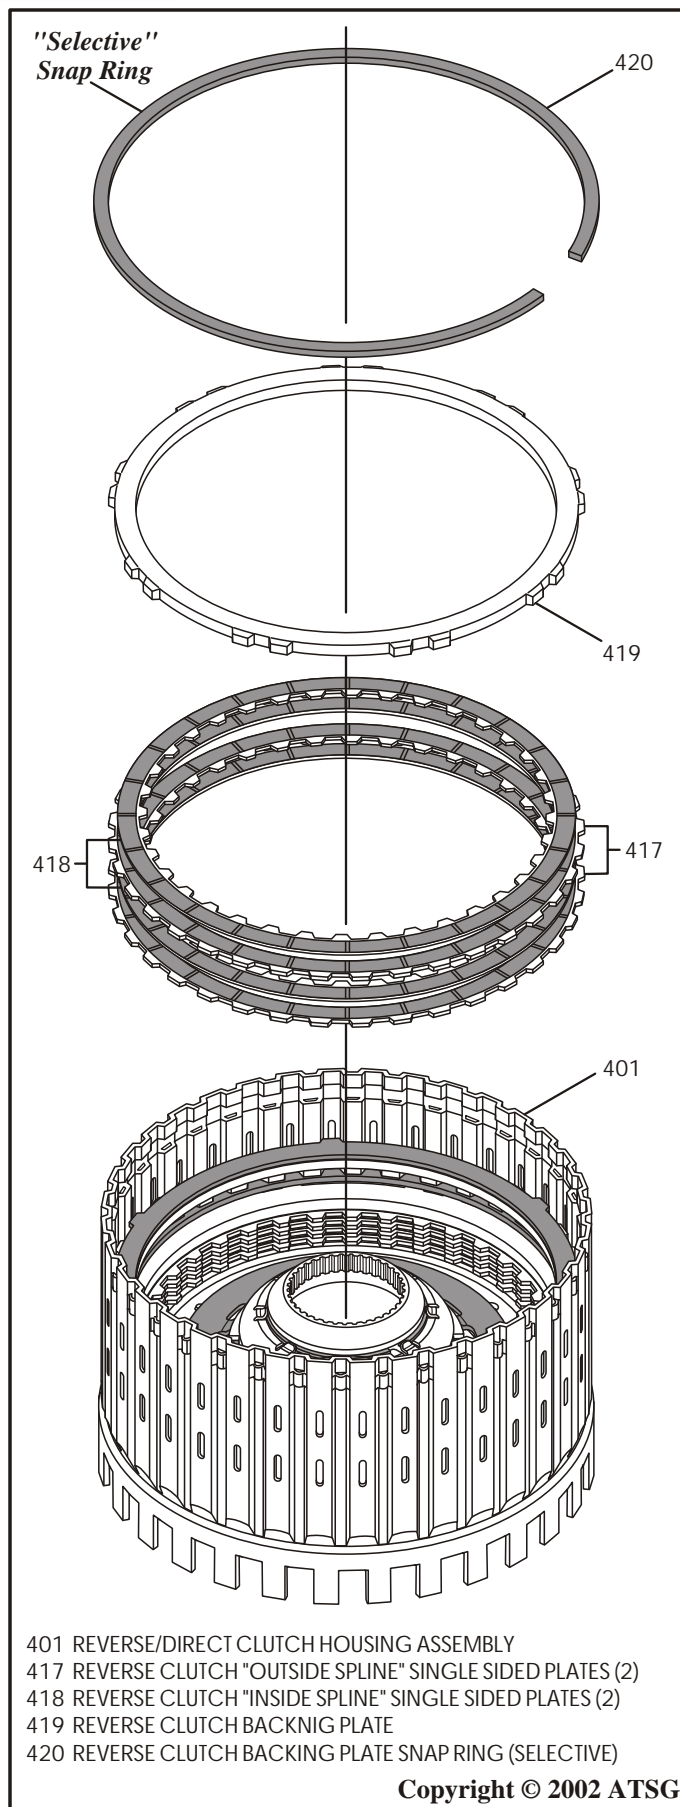

Figure 82
22. Install the reverse clutch "single sided" plates beginning with an outside spline plate first and alternating with inside plates until you have installed 2 of each, as shown in Figure 82.
- Note: Lined side must be installed facing up as shown in Figure 82. Clutch plate amounts may vary by model.**
23. Install the reverse clutch backing plate on top of the last inside spline plate, as shown in Figure 82.
24. Install the "Selective" backing plate snap ring as shown in Figure 82, and ensure that the snap ring is fully seated against the top of the snap ring groove in reverse housing.